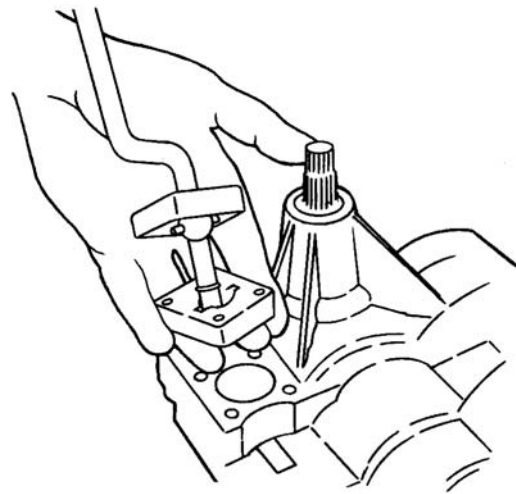

Figure 5-64. Installing Shifter
17. From a front position with the shift lever on your left, insert the shifter into the transmission with the lever to the left of the neutral position and in the low range quadrant. See Figure 5-64.